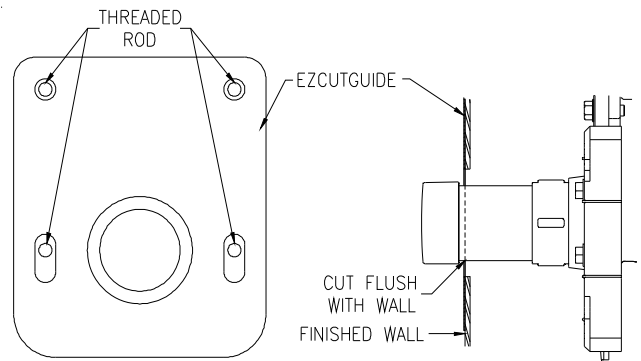

Fig. 15
- b. EZ-Set™ Coupling – Remove coupling protector. Hang the EZCUTGUIDE (purchased separately) See Fig. 15. Using an oscillating multi-tool with flush cut blade, remove the test cap and excess coupling length. Deburr sharp edges. See Fig. 16